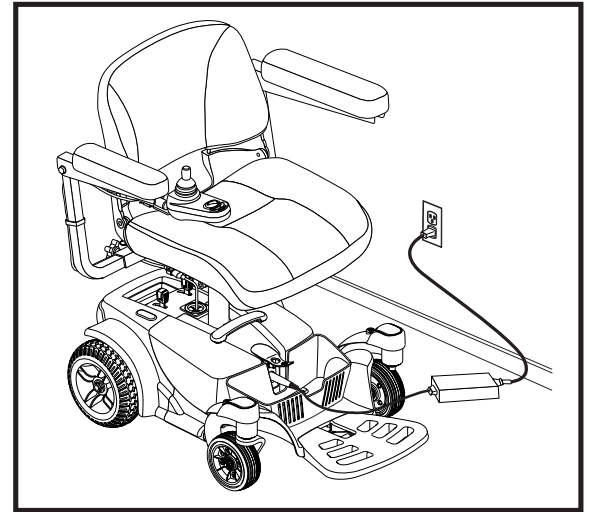

Figure 22. Battery Charging
1. Position the front of your travel chair next to a standard electrical outlet. See figure 22.